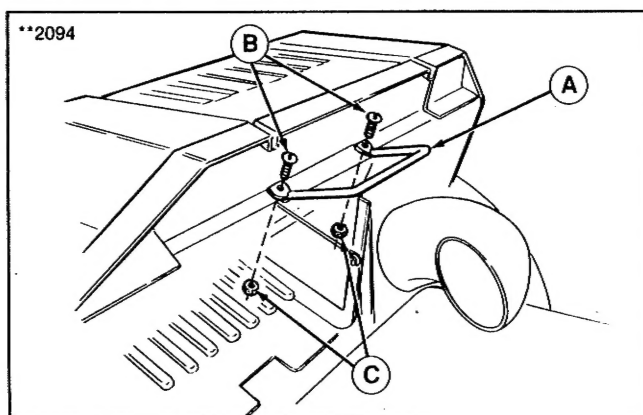

Figure 5.
7. Install handle (A, figure 5) to rear surface of lid with offset toward the rear. Secure with two 10-32 x 1/2 truss screws (B) and 10-32 nut/washer assemblies (C).